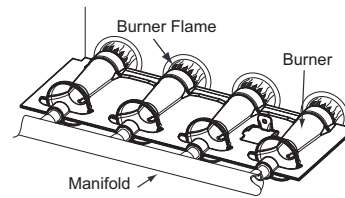

Fig. 62 - Burner Flame
- c. When correct input is obtained, replace caps that conceal gas valve regulator adjustment screws. Main burner flame should be clear blue, almost transparent. See Fig. 62.